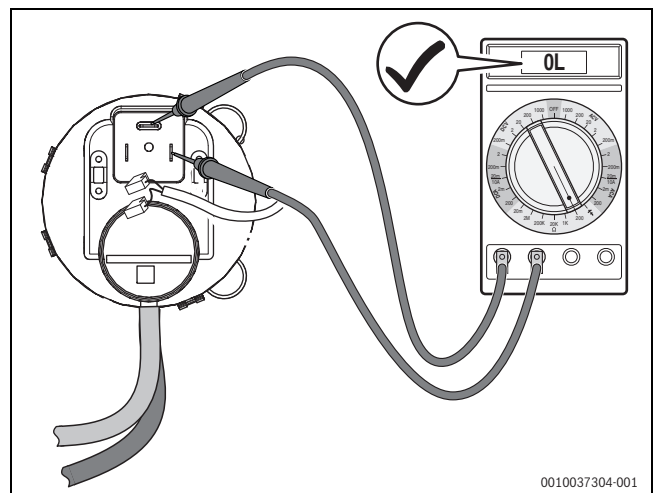

Fig. 88 Test the continuity of the differential pressure switch (differential pressure switch ok)
- Pull off power cables at the differential pressure switch and measure the resistance across the contacts (→Fig. 88).